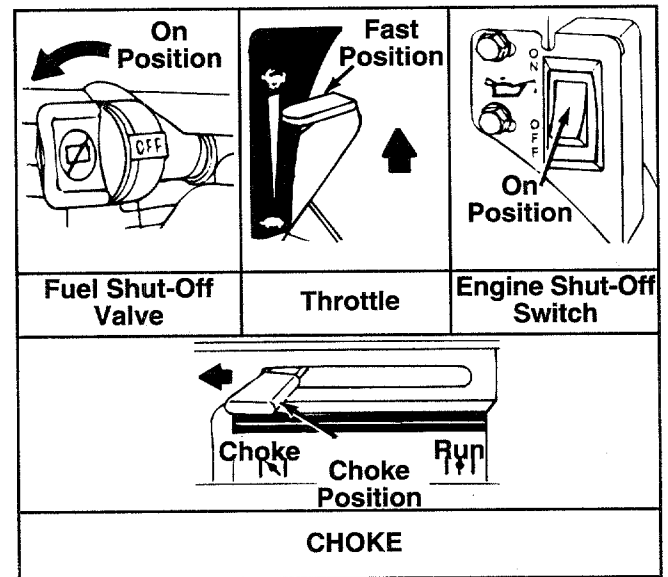

FIGURE 10.
- Open fuel shut-off valve by turning in direction of arrow. See figure 10.
- Place the throttle control lever in FAST position. See figure 10.
- Place the engine shut-off switch in ON position. See figure 10.
NOTE: If engine does not fire after three attempts, move choke lever halfway between CHOKE and RUN position and try again. See figure 10.
- Move engine shut-off switch to OFF position. See figure 10.